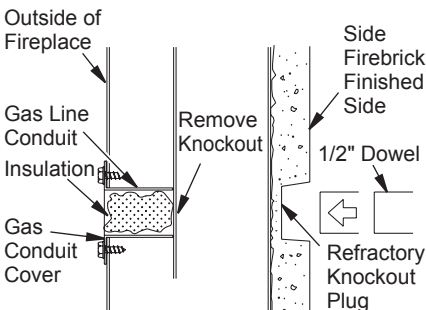

Figure 28 - Gas Line Knockout
1. Remove knockout indentation on refractory or firebrick wall located approximately 2" above the refractory hearth floor. The knockout indentation must be firmly tapped with any solid object such as a 1/2" dowel until it is released. Remove fragmented portions of refractory (see Figure 28).